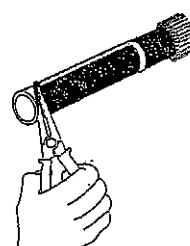

Fig.3d
- 1i) Using a pair of long nose pliers remove the semi conducting layer from between the 'tram lines'. Starting at cable end rotate the pliers to remove the tape in a progressive and controlled manner until the annular groove is reached. See fig. 3d.